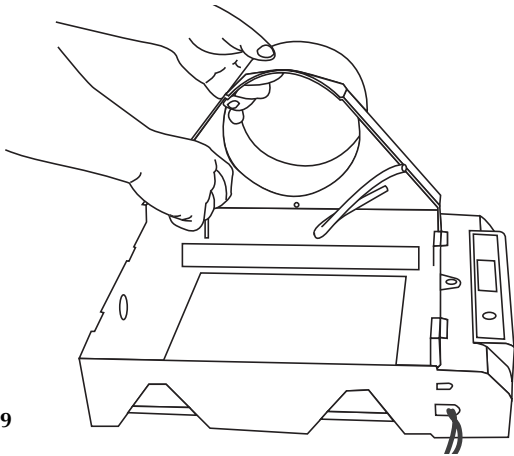

Figure 9
- Remove the two #6 screws which hold the humidifier side in place (a short handed screw driver will give you easier access to the screws) (fig 9.)